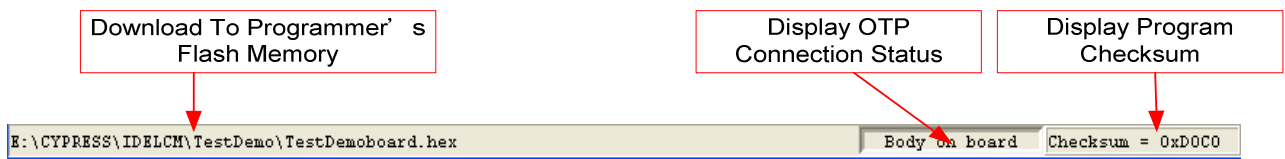

Figure 10
3. If there is enabled program times in the assembly option, information column will display the programming times as shown in Figure 10.